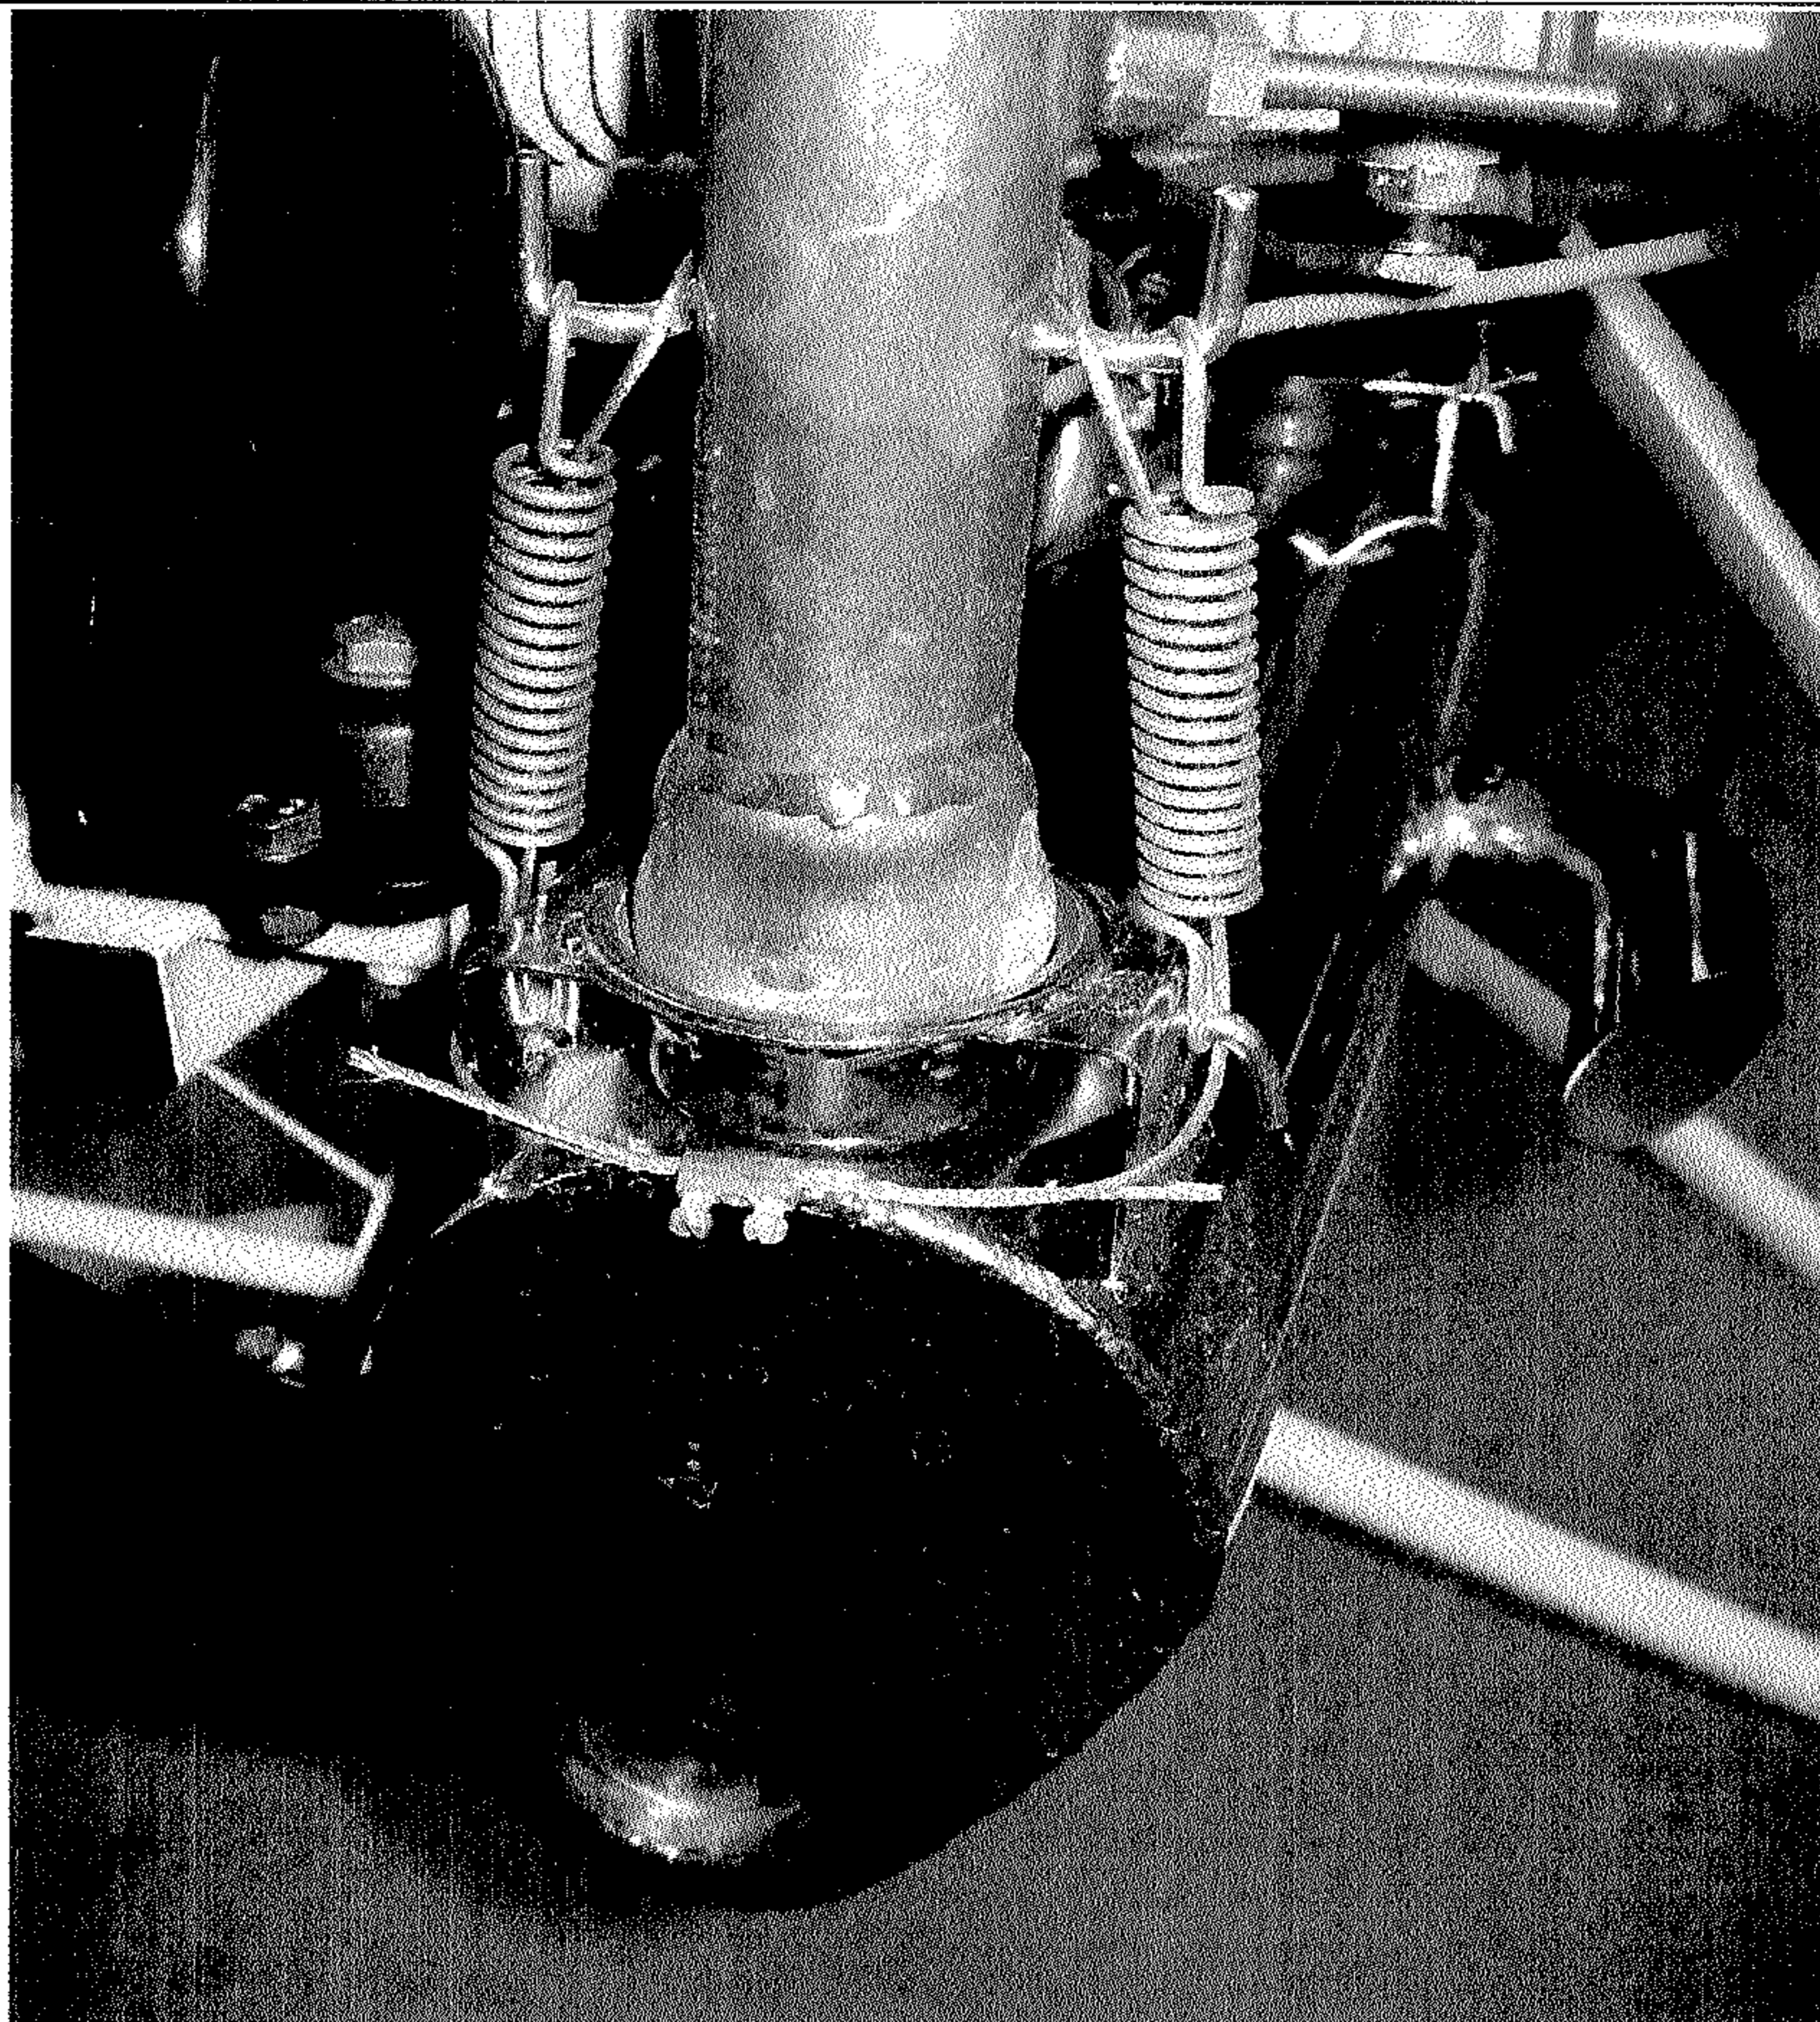

Fig 4 Exhaust springs and backup cable
- g) Refit the backup cables through the springs as shown in fig 4.